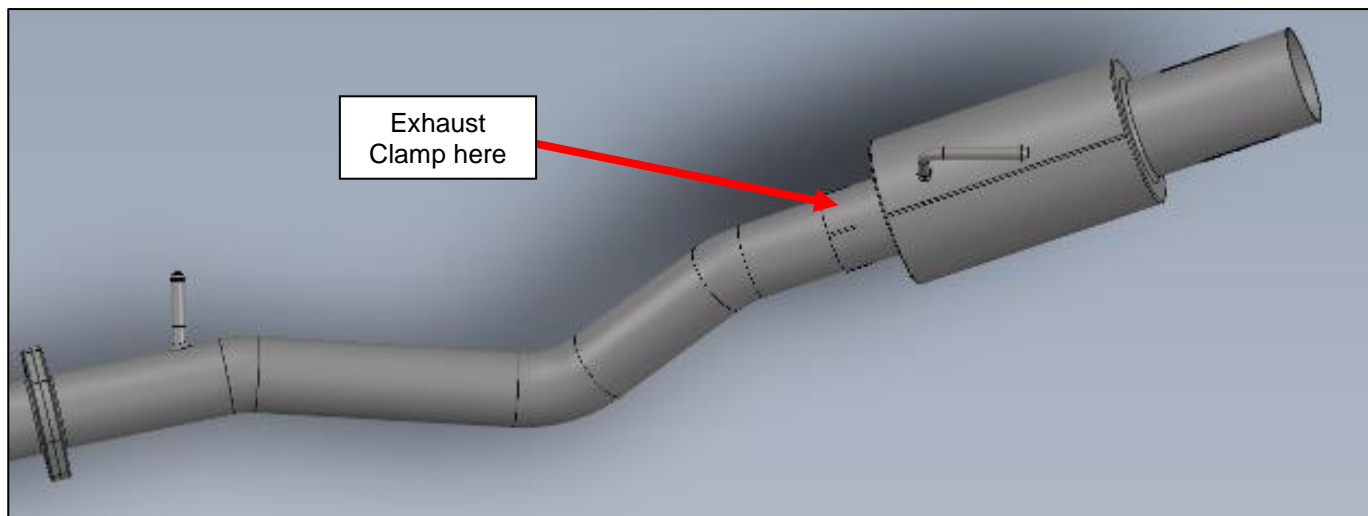

Figure 3
6. Locate the Rear Section of the Exhaust and the Exhaust Clamp. Loosely install the Exhaust Clamp over the Rear Section and install it into the Muffler. Mount the Rear Section in the OE Exhaust Hanger. *Figure 3.*